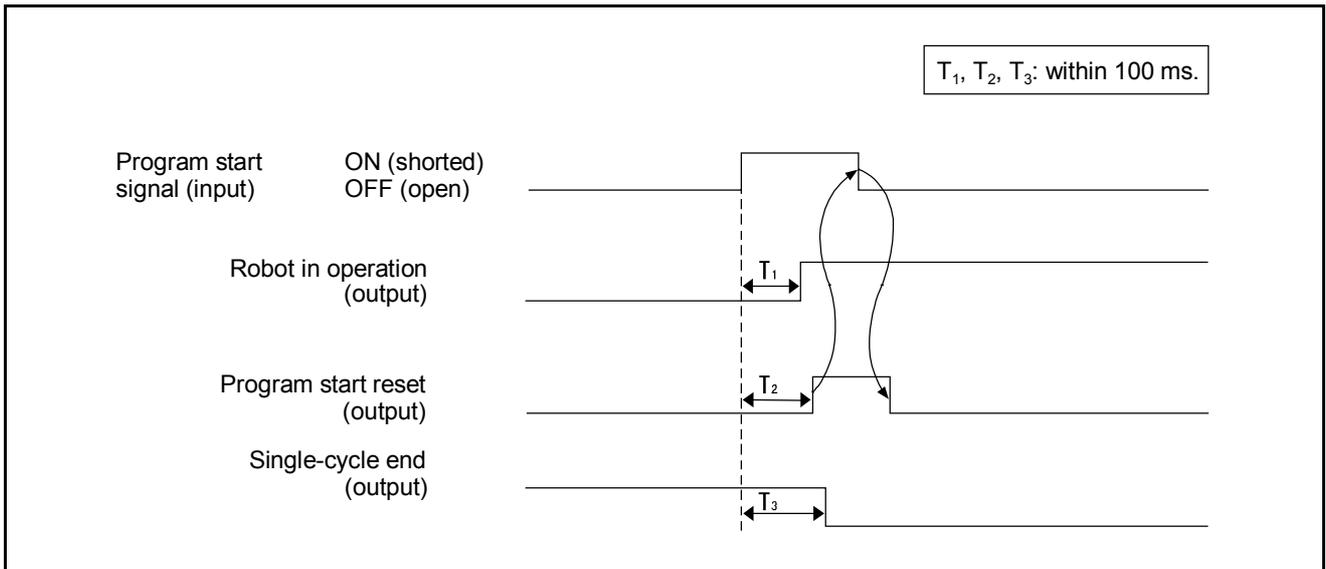

Figure 5-44 Program Start Signal Rise Output Signal Timing
② The status of the robot-in-operation, program start reset and single cycle end output signals changes in sequence after the program start signal is input ( $T_1 \rightarrow T_2 \rightarrow T_3$  in Figure 5-44).
The change of the status of these signals takes place within 100 msec. after the program start signal rises (ON). See Figure 5-44.